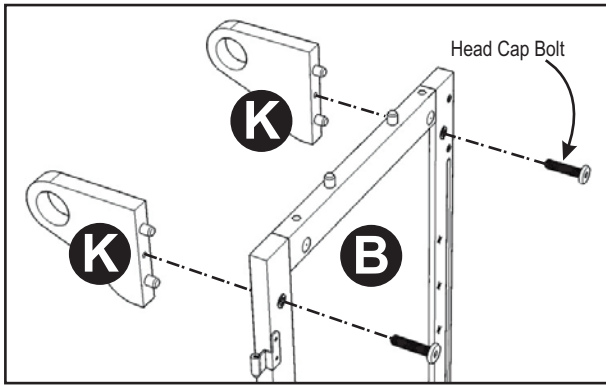

Figure 4
Attach Arms (K) to Side Panel (B) with Head Cap Bolts. (See Figure 4)